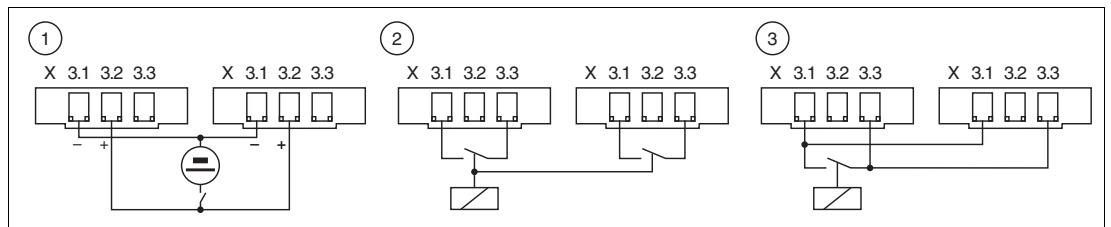

Figure 3.4 Connector X3
- X3.2 = 12 VDC ... 24 VDC galvanically isolated control voltage (SELV/PELV), → see Figure 3.4 on page 25, item 1
- X3.1 to X3.3 for external, volt-free contact, galvanically isolated from other contacts and potentials, → see Figure 3.4 on page 25, item 2. This separation also applies to other contacts from other backplanes, unless this involves interconnecting the base backplane and the extension backplane, → see Figure 3.4 on page 25, item 3. The status information for the external contact can be read in using the LB1*08* I/O module.